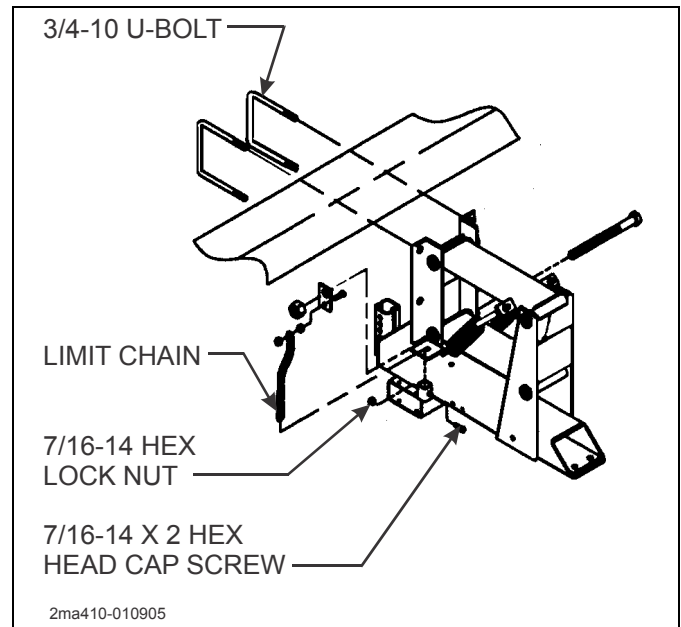

Figure 4-6: Limit Chain Adjustment
1. The length of up and down movement for the tool frame is controlled by the limit chain (See Figure 4-6) on the left side of the tool frame. If a different distance of movement is required, change the limit chain one link at a time until the desired amount of movement is met.